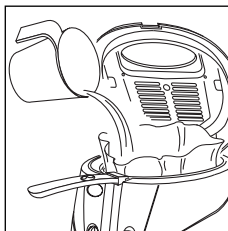

fig. 12
8. Pour the oil or fat very slowly into the basket ensuring that it does not overflow from the filter (fig. 12). After use throw the filter away.